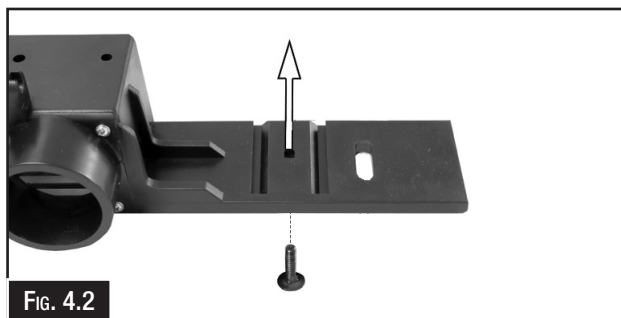

FIG. 4.2
1. Insert the carriage bolt into the fence from below as shown. (Fig. 4.2)